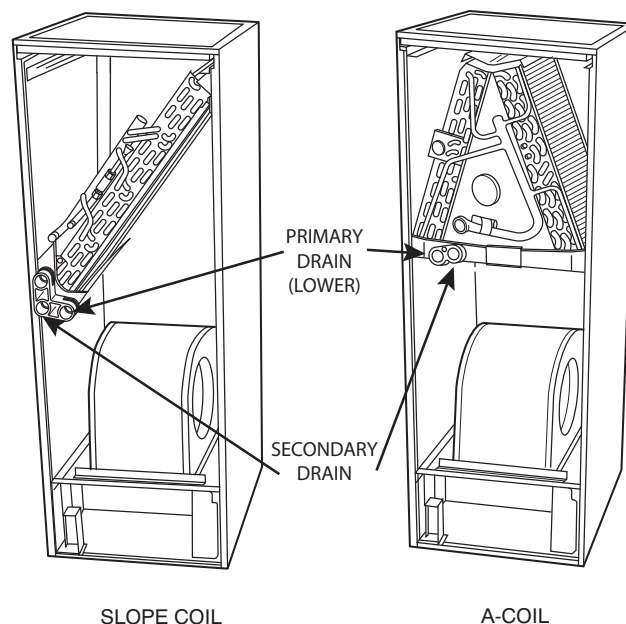

Fig. 1 – Downflow
A. Downflow Applications (Fig. 1)